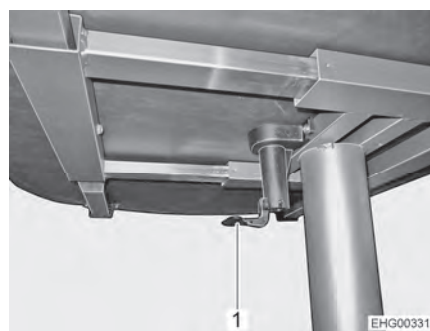

Fig. 58 Lift-off table
- Fold the lever of the central table lock (Fig. 58,1) downwards.